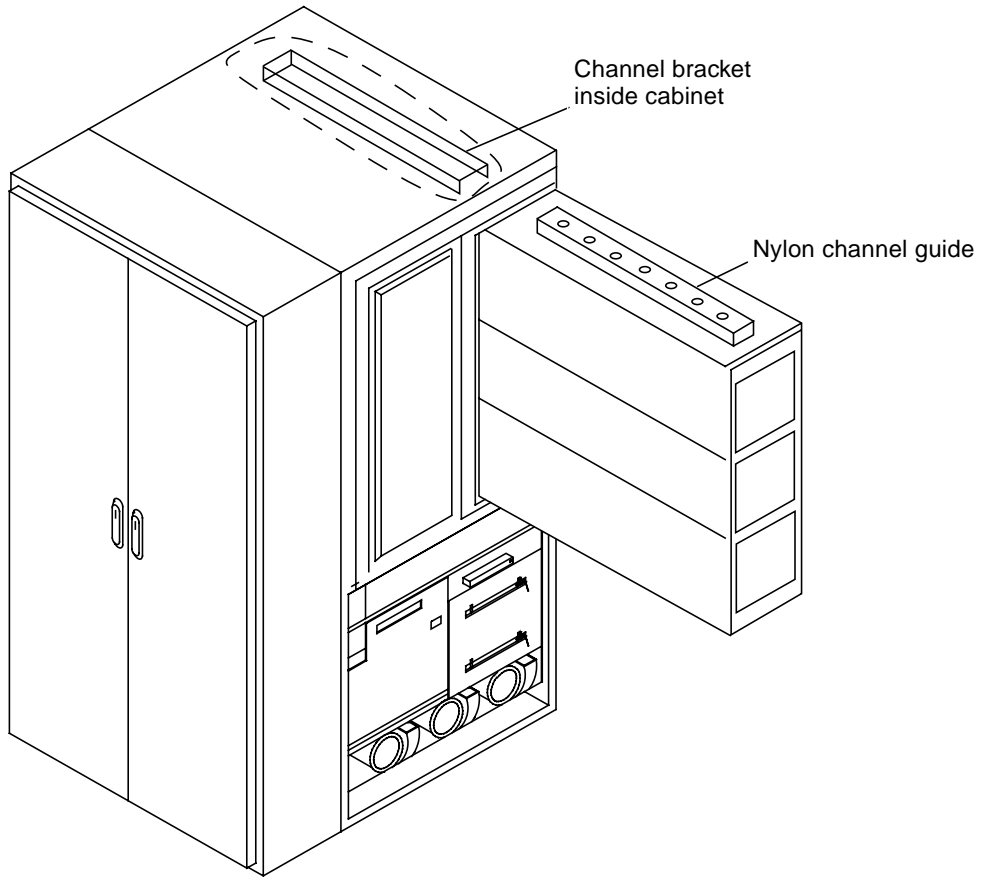

FIGURE 6-5 HDSA Drawer Channel Guide Adjustment Diagram
2. At the top of the drawer is the nylon channel guide, shown in FIGURE 6-5. Seven screws hold the channel guide in place. Loosen all seven screws. Note that the channel guide is now loose and moves from side to side.